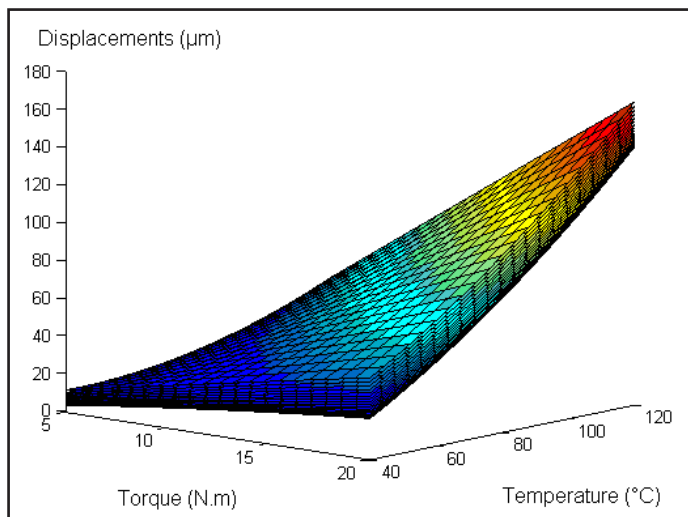

Figure 11 Total tooth displacements at the highest contact point at different rotation speed levels (10–1,000 rpm),  $R_h=0\%$ .
**Tooth bending displacements.** Displacements are observed at the highest contact line. They correspond to the wheel and pinion bending displacement in the case of a tip circle contact of the pinion. Corresponding gear data is found in Table 1; measured displacements take into account the bulk and contact displacements. Also, for both of them the elastic, viscous, and historic origins of displacements are measured. Figure 11 represents the total displacement of pinion and gear at the highest contact point—dependent upon torque and temperature at different rotation speed levels. Total displacements are strongly impacted by temperature and torque, whereas rotation speed has minimal influence.